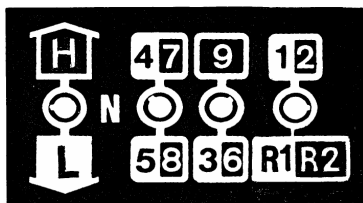

Fig. E-9 Gearbox lever operation scheme **PRONAR-82A II**
- now with the same lever switch on the selected gear, according to the scheme situated in the cab (**fig. E-9; E-10**). Perform gear selection with smooth motion, do not pull at the lever. If the gear does not “catch”, set the lever smoothly to neutral position, release slightly pressure on the clutch pedal, then press it as far as it will go and select the required gear once again.